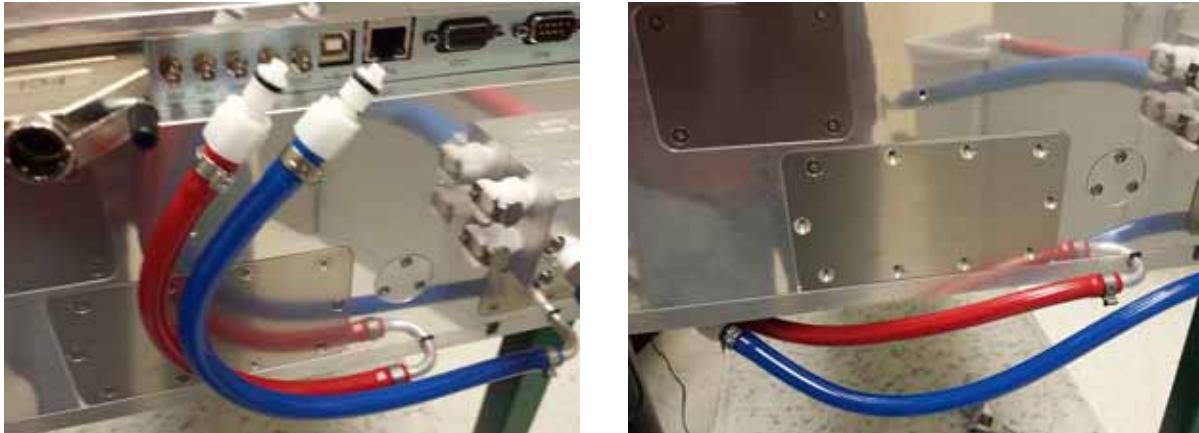

Figure 8-2. Clearing the Desiccant Access Plate
3. Note which hose plugs into which connector, then unplug the hoses in front of the desiccant access plate and carefully move them aside (see Figure 8-2).